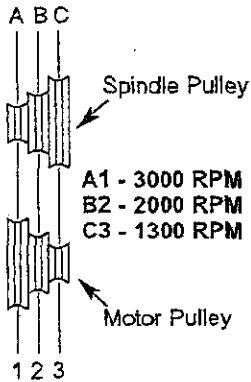

Figure 5 - Spindle Speeds
Refer to Figures 5 - 42.
Refer to Figures 5 and 42.
- Refer to Figure 5 for desired spindle speed. Lift belt to required pulley step on the spindle pulley.